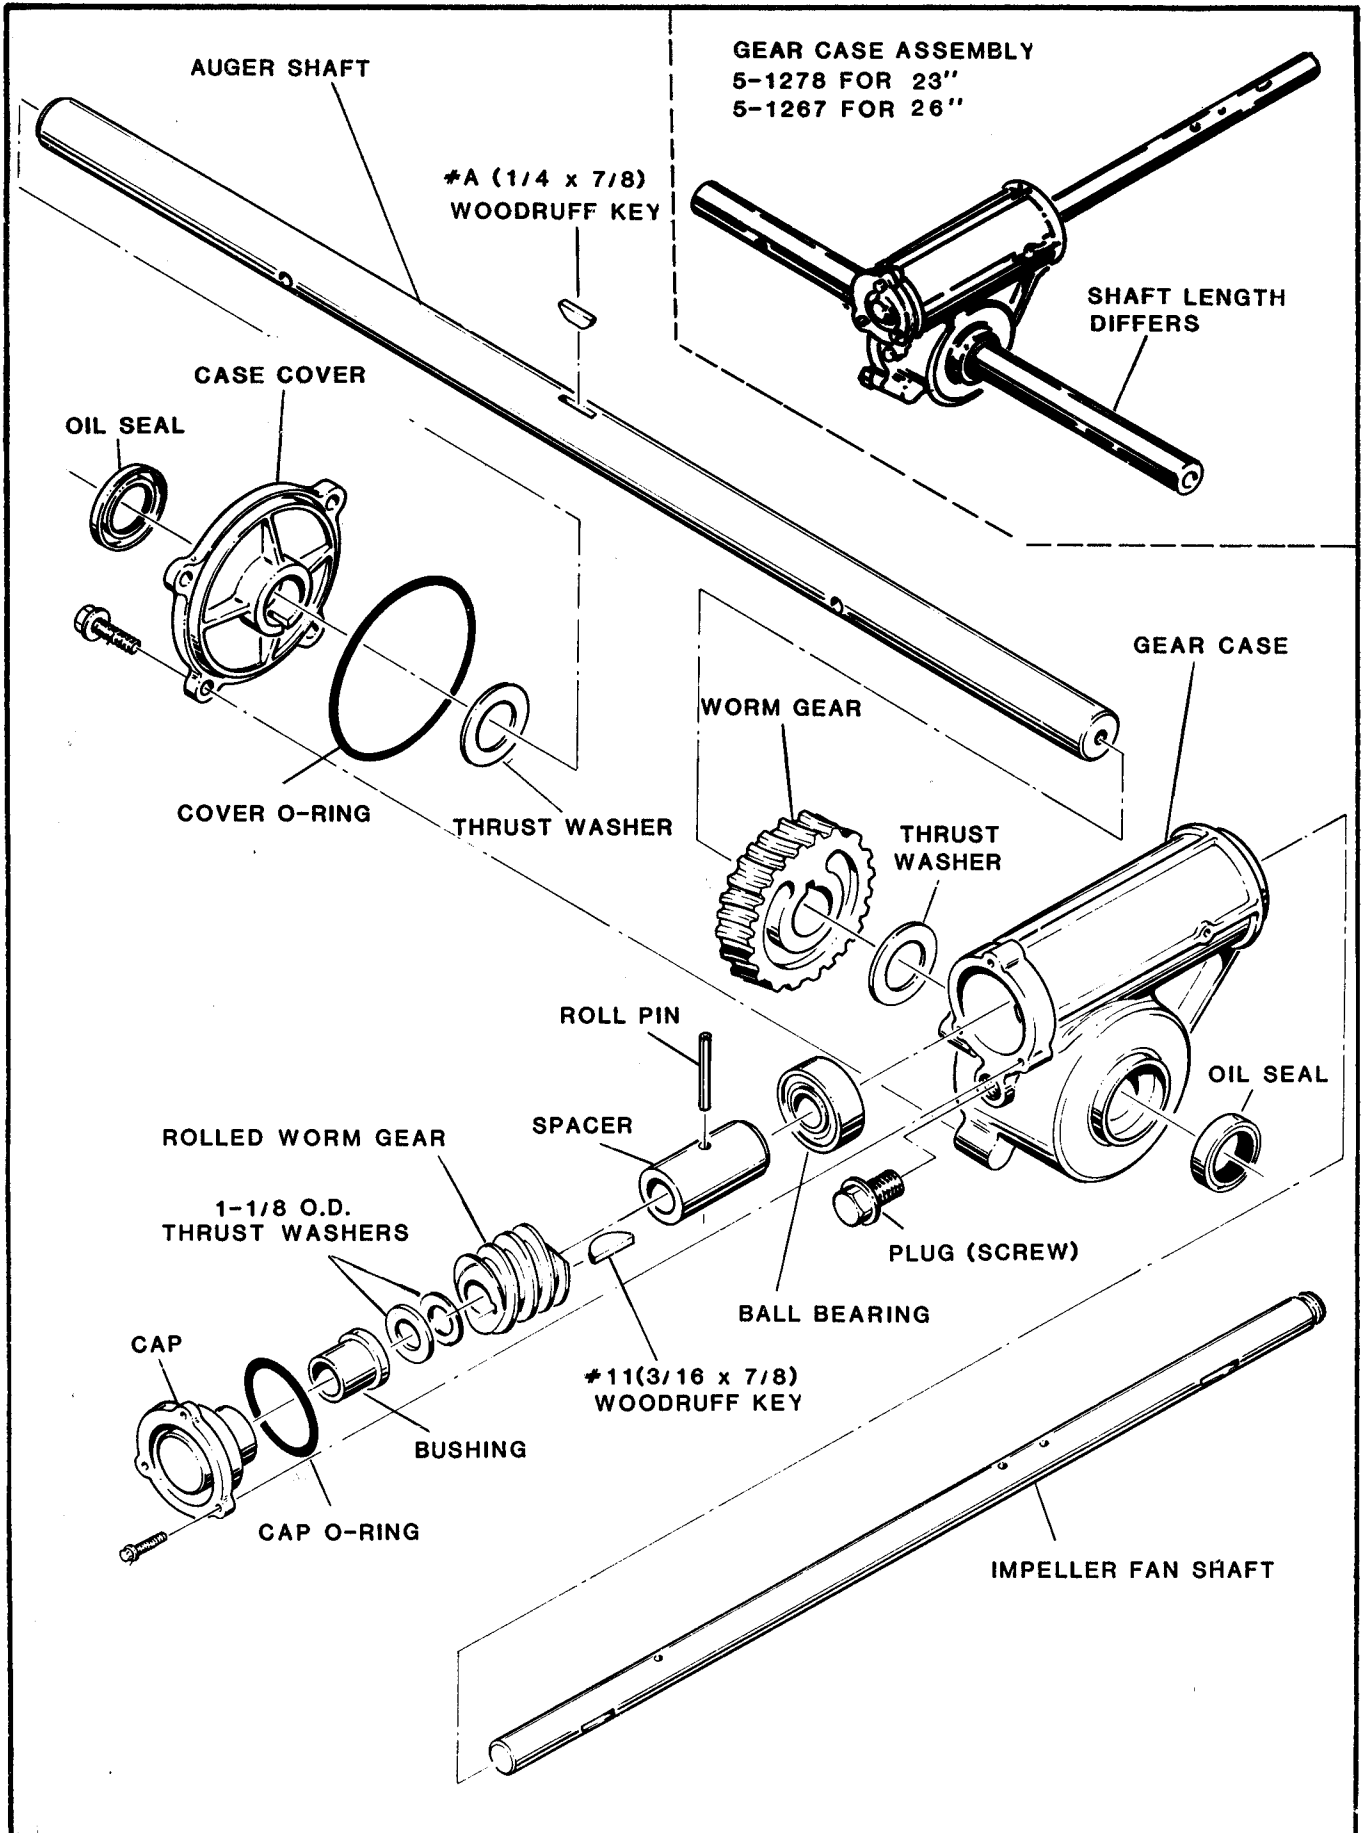

FIGURE 3.17 — GEAR BOX EXPLODED VIEW
STEP 5. Carefully inspect the housing, end cap, and cover. Replace "O" rings, oil seals and cap bushing as needed. Also check the impeller shaft ball bearing and replace if needed. Thoroughly clean all components before re-assembling in the sequence illustrated in Figure 3.17.